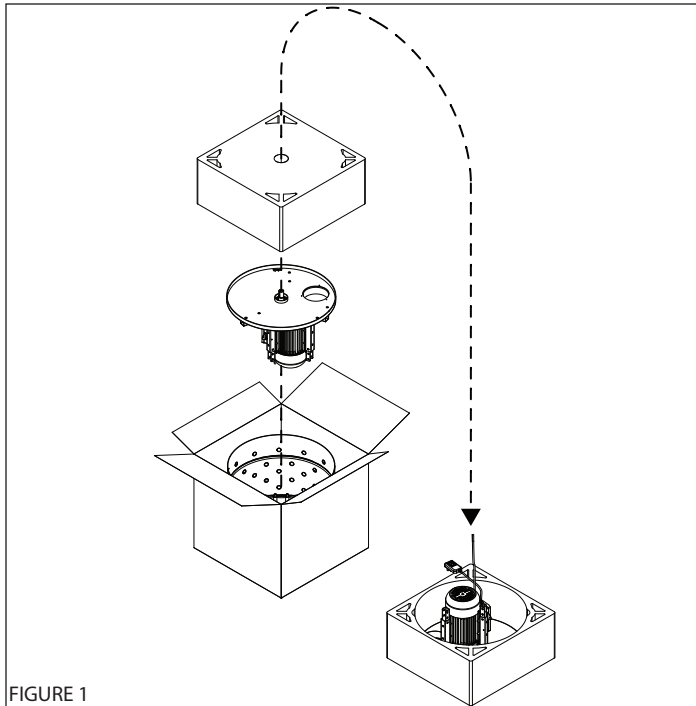

FIGURE 1
1. Open top of carton and remove the Styrofoam inner pack with the hole in the middle. **SEE FIGURE 1**
- Axle (2)
- Long Legs (2)
- Wheel (2)